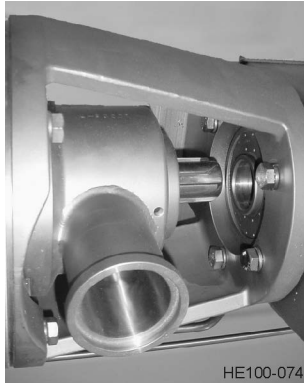

Figure 42 - Align Shaft Splines with Gear Reducer
8. Push the spline of the shaft partially into the gear reducer. The shaft may need to be rotated slightly for the splines to seat in the gear reducer. See Figure 42.